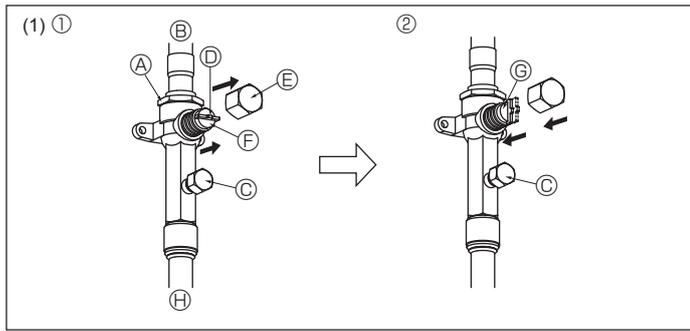

Fig. 4-10
(1) Gas side (Fig. 4-10)
① Remove the cap, pull the handle toward you and rotate 1/4 turn in a counterclockwise direction to open.
② Make sure that the stop valve is open completely, push in the handle and rotate the cap back to its original position.